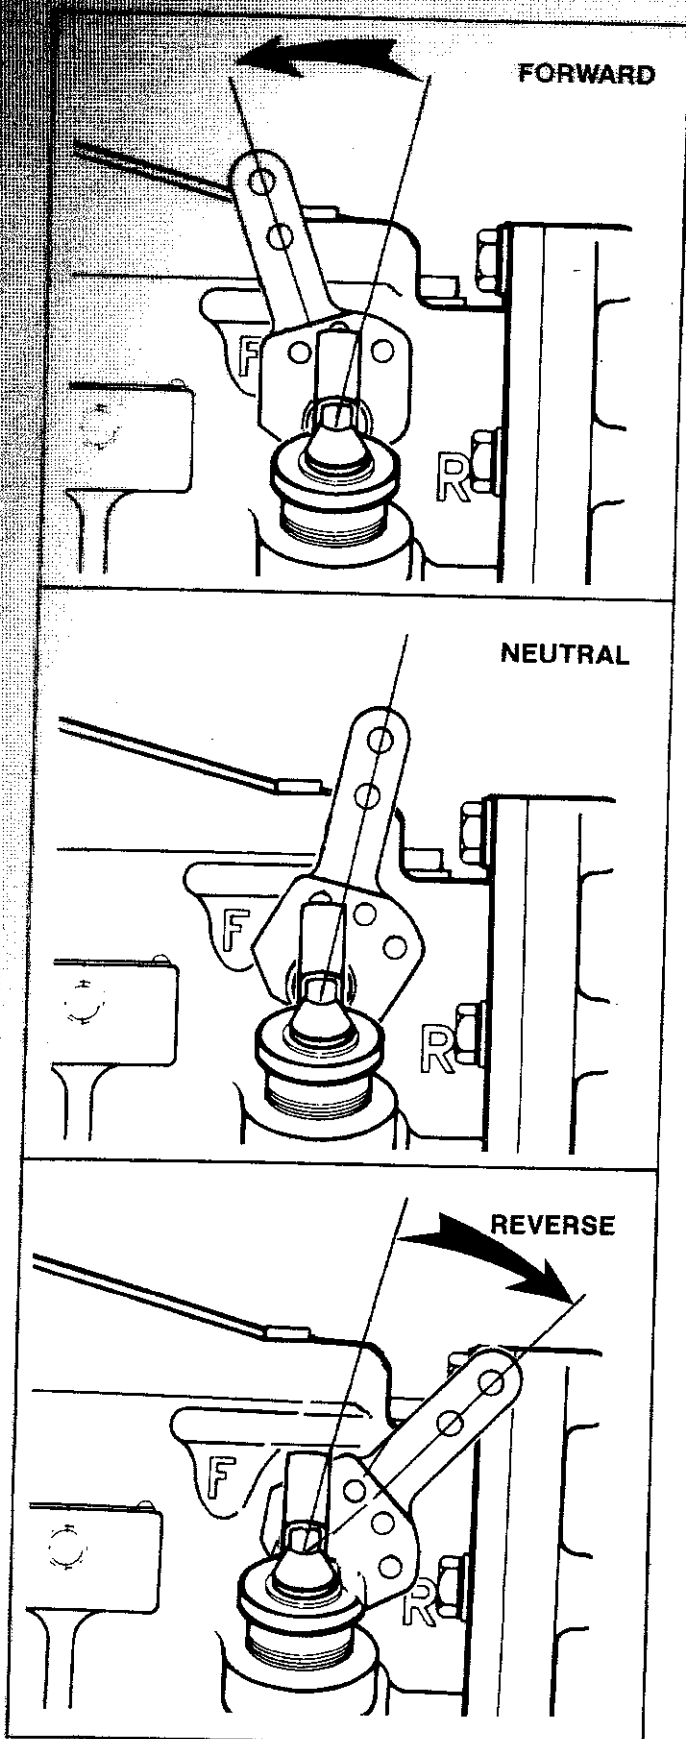

Figure 2-2.
The selector control mechanism and linkage must position the shift lever on the transmission exactly in Forward (F), Neutral (N), and Reverse (R) shifting positions. A detent ball located behind the transmission shift lever must work freely to center the lever in each position. (see Figure 2-2). The selector control positions at the helm(s) must be coordinated with those of the Velvet Drive™ shift lever through shift mechanism adjustments. An improperly adjusted shift mechanism can cause damage to the transmission.